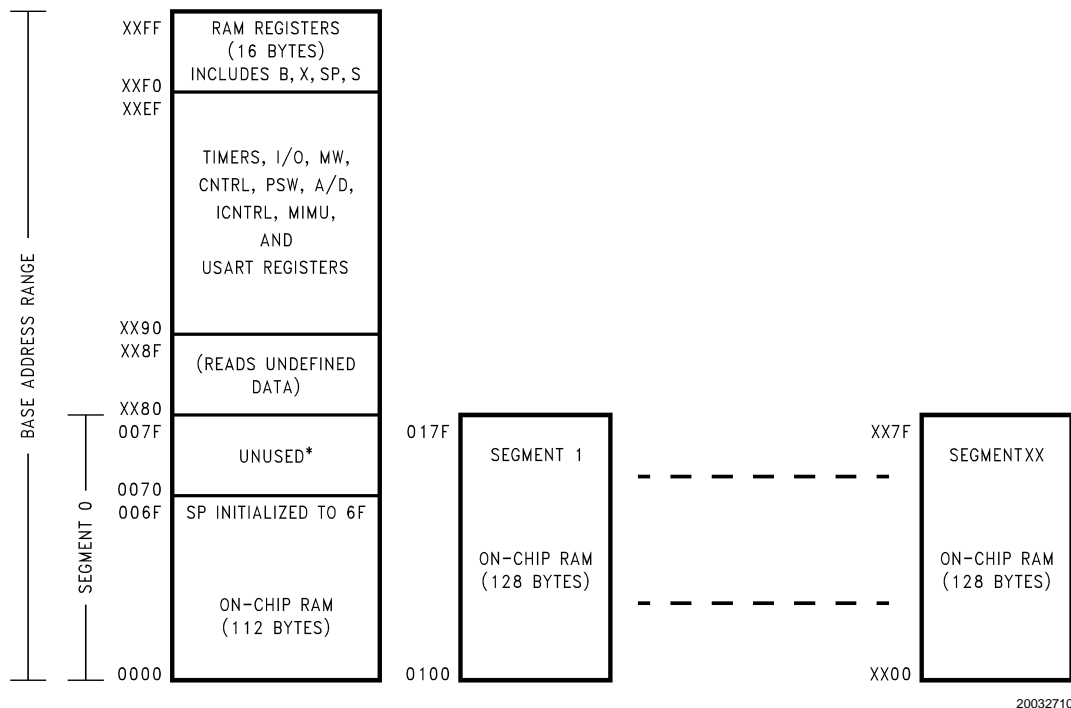

FIGURE 7. RAM Organization
*Figure 7* illustrates how the S register data memory extension is used in extending the lower half of the base address range (00 to 7F hex) into 256 data segments of 128 bytes each, with a total addressing range of 32 kbytes from XX00 to XX7F. This organization allows a total of 256 data segments of 128 bytes each with an additional upper base segment of 128 bytes. Furthermore, all addressing modes are available for all data segments. The S register must be changed under program control to move from one data segment (128 bytes) to another. However, the upper base